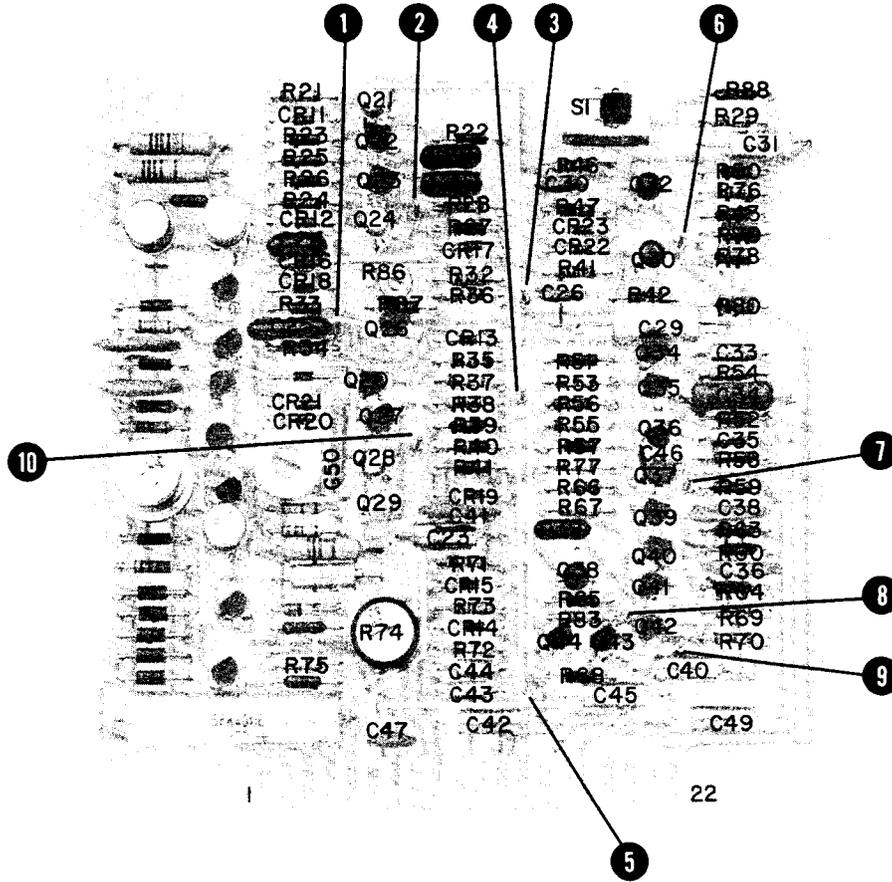

Figure 7-11. A2 Meter Logic Assembly Component Locations
g. Remove the A2 Meter Logic Board. A2C45 by referring to Figure 7-11.